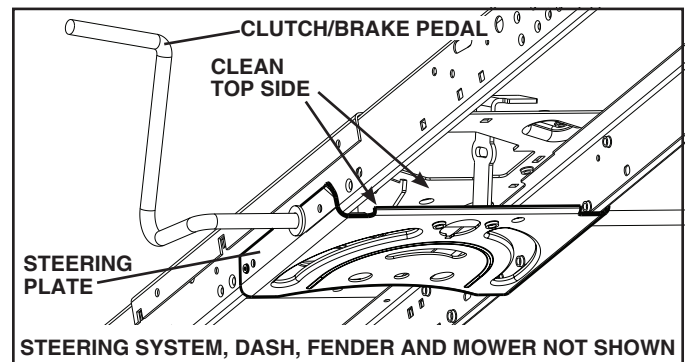

Fig. 22
- Clean debris from steering plate. Debris can restrict clutch/brake pedal shaft movement, causing belt slip and loss of drive. See Fig. 22.